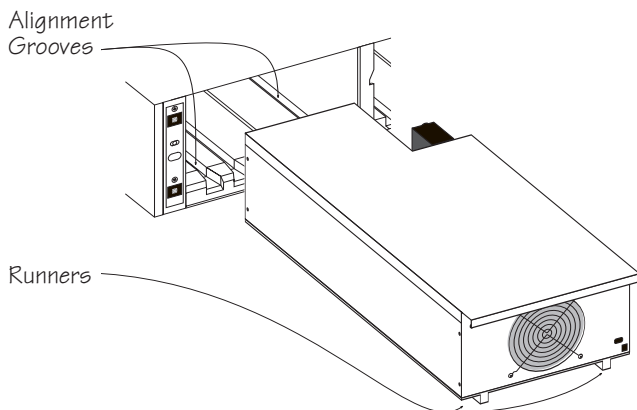

Fig 5-6 Power Module Alignment Grooves and Runners
2. There are two alignment grooves molded into the bottom of the power module bay. These correspond with runners that are molded into the bottom of the power module. See figure 5-6.
4. Make sure the alignment grooves and the runners are lined up. Slide the power module into bay. See figure 5-6.